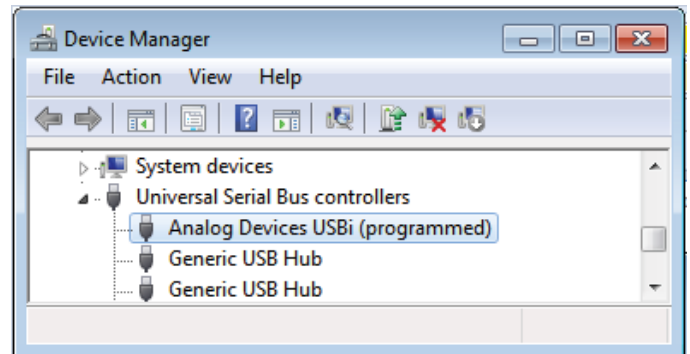

Figure 8. **Confirming Driver Installation with the Device Manager**
- In the Windows **Device Manager** under the **Universal Serial Bus controllers** section (see Figure 8), check that **Analog Devices USBi (programmed)** is displayed.